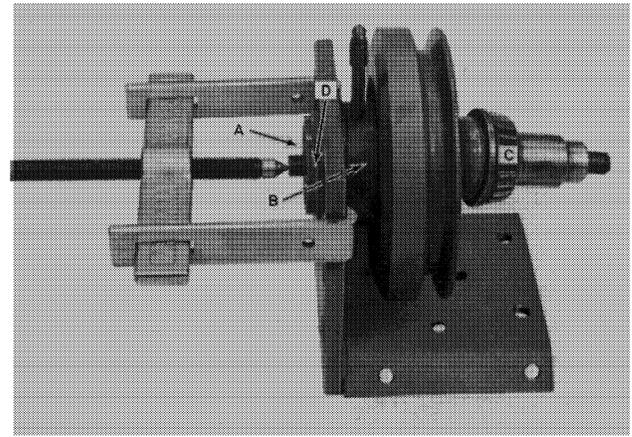

FIGURE 7
4. Remove the cap, cotter pin and hex nut from the wobble shaft at A, Figure 7. Use a bearing puller and push the wobble shaft and sheave assembly out of the support. Remove bearings, B, C, and D, Figure 7, from wobble shaft with a bearing puller. **NOTE: Do not remove sheave from wobble shaft. The sheave is pressed on the wobble shaft and has a woodruff key installed.**
1. Install wobble shaft assembly as shown in Figure 7. Install washer and hex nut and tighten until bearings have a running fit of 6-10 in. lbs. (.68 to 1.13 N·m). These bearings have an interference fit and must be properly seated before the nut is tightened. Install cotter pin and cap.